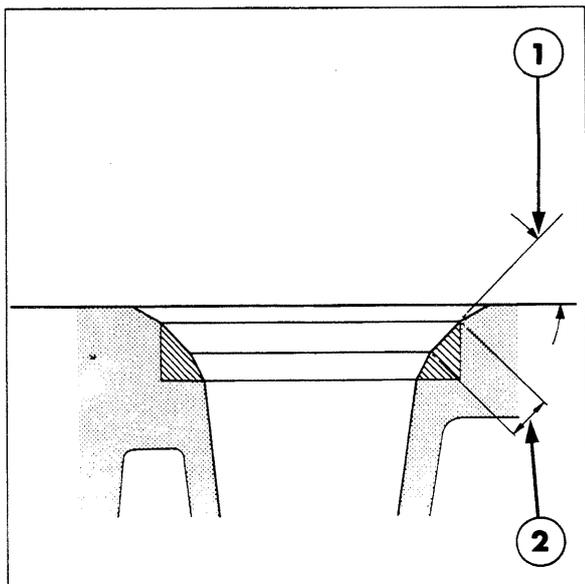

Figure 12
6. Check the width of the valve seat inserts and, if necessary, reface by grinding to the dimensions shown in Figure 12.